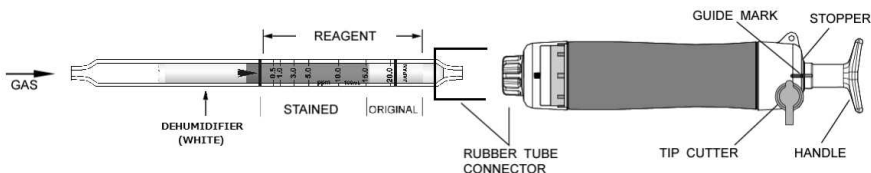

Fig.1
- ② Insert the detector tube into the aspirating pump securely as shown in Fig.1. (Arrow mark shall point to the pump.)
- ③ Align the guide marks on the shaft and stopper of the aspirating pump.
- ④ Pull the pump handle at a full stroke until it locks and wait for 1 minute or until the completion of sampling is confirmed with the flow indicator of the pump. (See descriptions about the flow indicator in the instructions of the pump.)
- ⑤ On completion of sampling, read the scale at the maximum point of the stained layer.
- ⑥ When the concentrations are below the scale range, 5 pump strokes can be used to determine these lower concentrations. Then multiply the reading value after the temperature correction by 1/5.